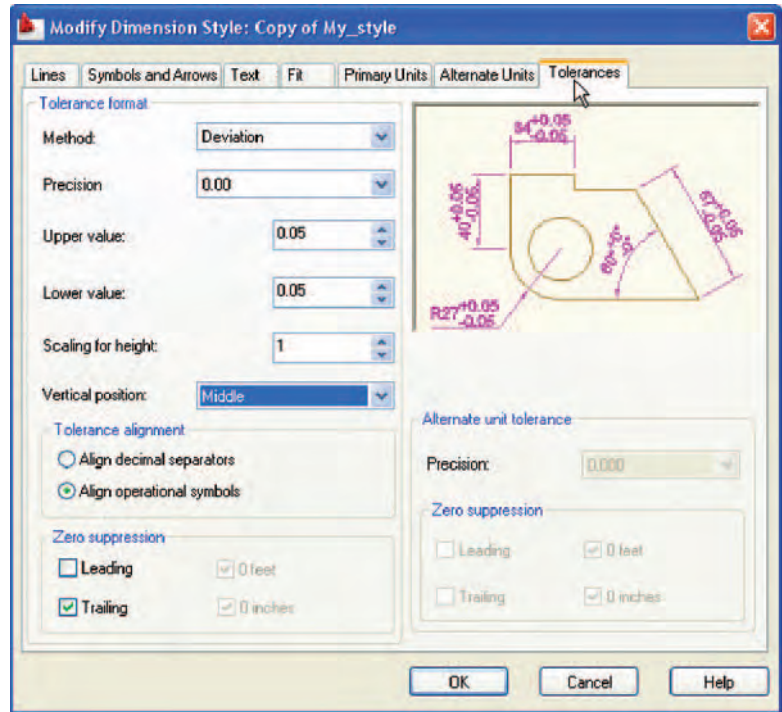

Fig. 6.17 The **Tolerances** subdialog of the **Modify Dimension Style** dialog
2. *Click* the **Modify...** button of the dialog, followed by a *left-click* on the **Primary Units** tab and in the resulting sub-dialog make settings as shown in Fig. 6.17. Note the changes in the preview box of the dialog.